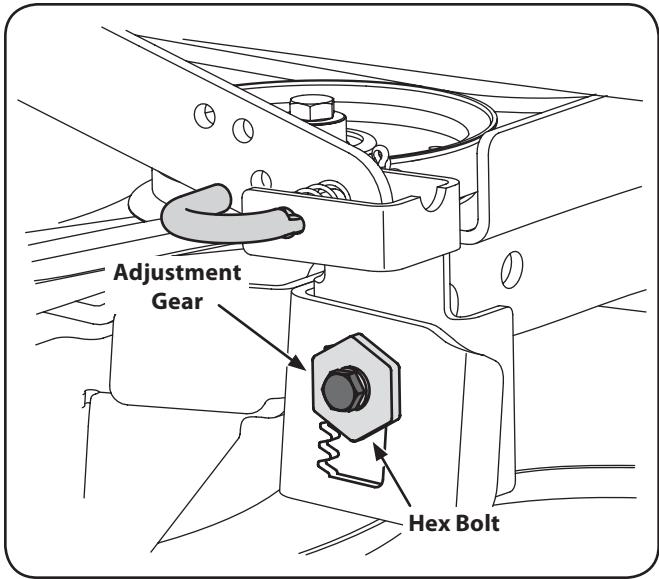

Figure 6-6
3. Loosen, but do NOT remove, the hex bolt on the left deck hanger bracket. See Fig. 6-6.
- Using a wrench, raise or lower the left side of the deck by turning the adjustment gear. See Fig. 6-6.